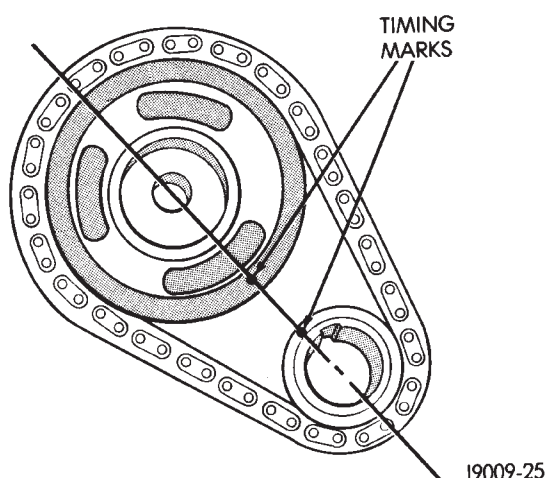
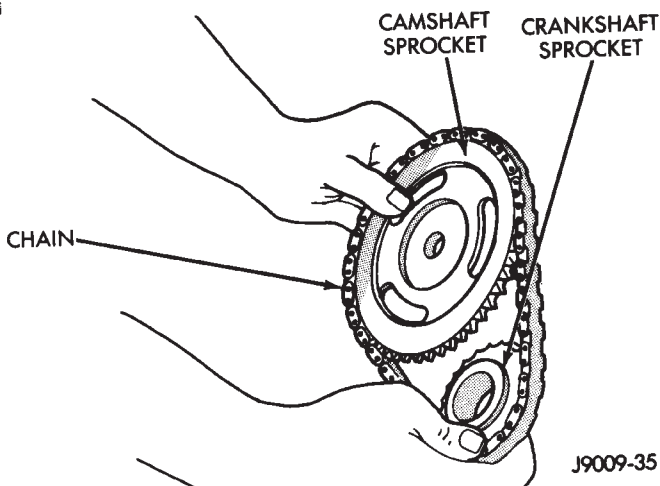
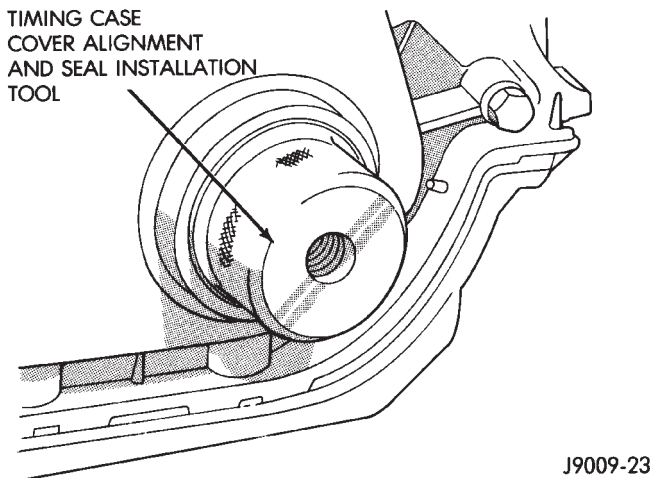

Fig. 51 Timing Chain Alignment
Fig. 52 Camshaft and Crankshaft Sprocket and Chain
Fig. 53 Timing Case Cover Alignment and Seal Installation Tool 6139
(7) If equipped with air conditioning, Remove the A/C condenser attaching bolts and move the condenser and receiver/drier assembly up and out of the way.
- (8) Remove the crankshaft vibration damper.
- (9) Remove the timing case cover. Clean the gasket material from the cover.
- (10) Rotate crankshaft until the crankshaft sprocket timing mark is closest to and on the center line with the camshaft sprocket timing mark (Fig. 51).
- (11) Remove camshaft sprocket retaining bolt.
- (12) Remove the crankshaft oil slinger.
- (13) Remove the sprockets and chain as an assembly (Fig. 52).
(4) Install the camshaft sprocket, crankshaft sprocket and timing chain with the timing marks aligned (Fig. 51).
(5) Install the crankshaft oil slinger.
(6) Tighten the camshaft sprocket bolt to 108 N·m (80 ft. lbs.) torque.
(7) Check the valve timing.
(8) Coat both sides of the replacement timing case cover gasket with gasket sealer. Apply a 3 mm (1/8 inch) bead of Mopar Silicone Rubber Adhesive Sealant, or equivalent to the joint formed at the timing case cover and cylinder block.
(9) Position the timing case cover on the oil pan gasket and the cylinder block.
(10) Place Timing Case Cover Alignment and Seal Installation Tool 6139 in the crankshaft opening of the cover (Fig. 53).